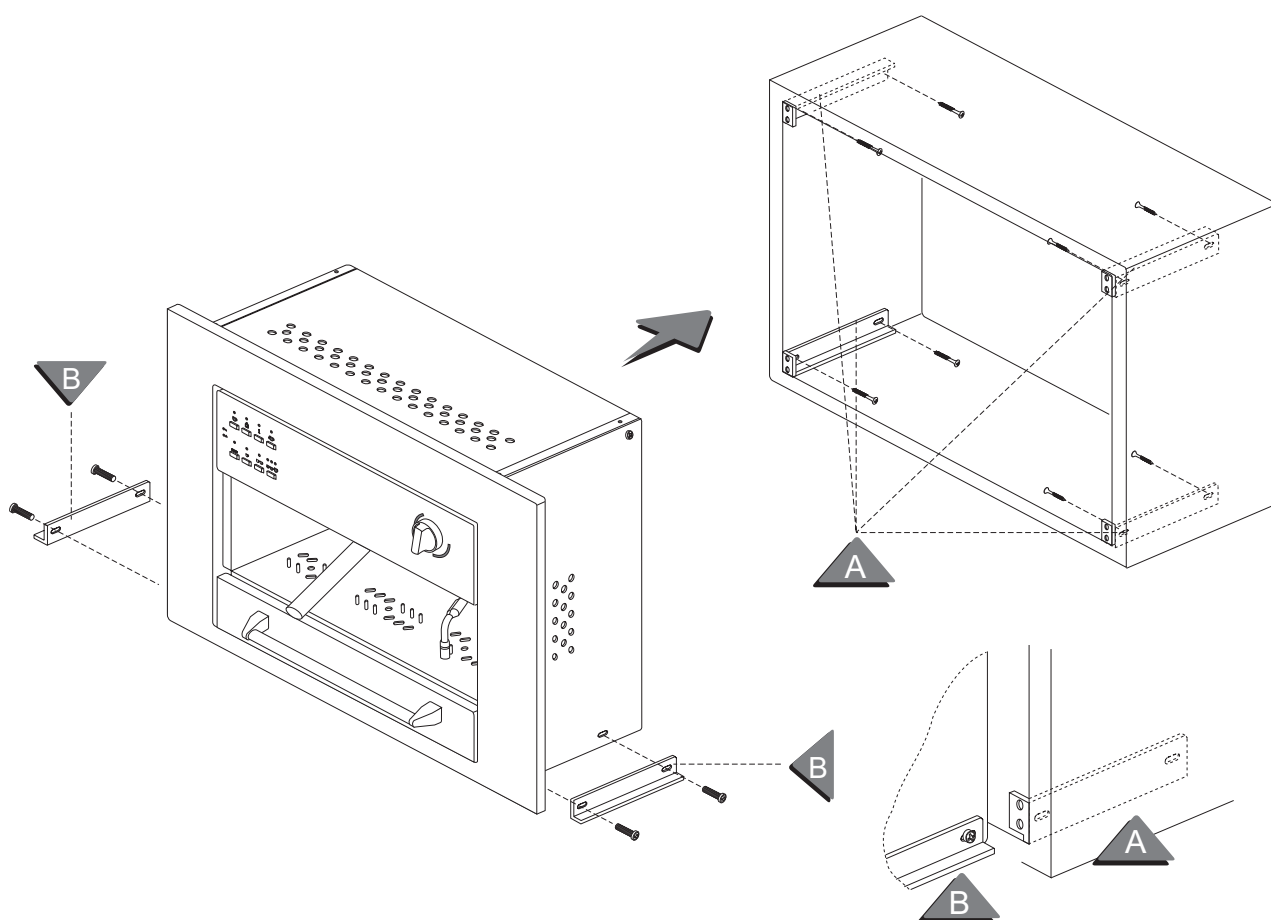

Fig. 3
2. Fix the 4 brackets **A** to the 4 corners of the cabinet opening, using the appropriate screws (Fig. 3).
3. Fix the 2 angular brackets **B** to the machine (Fig. 3). The 2 vertical holes on the brackets allow the height of the machine to be levelled and aligned.
5. Place the machine in the centre of the cabinet, taking care that the horizontal side of the 2 angular brackets **B** are slotted into the appropriate holes on the brackets **A** (Fig. 3).